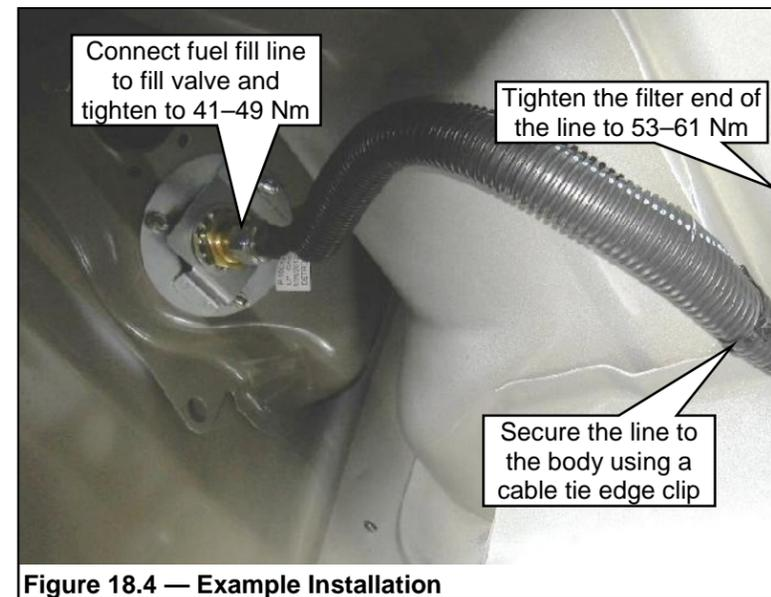

Figure 18.4 — Example Installation
3. If applicable, install the fuel fill line (P-10D121-C-1700) to the fuel fill valve. **Figure 18.4.** Route the line as necessary, secure the line using cable tie edge clips as needed and attach the line to the fuel filter and tighten to 53–61 Nm after the tank is installed. Refer to *Installing the New Fuel Tank (Aft Cab)* for more information.